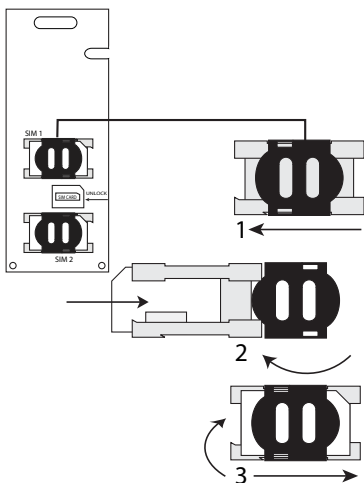

Figure 2: SIM Card Installation
- 2) Slide the SIM card tray towards the left to unlock it, and then flip the SIM card tray open, as shown in Figure 2.